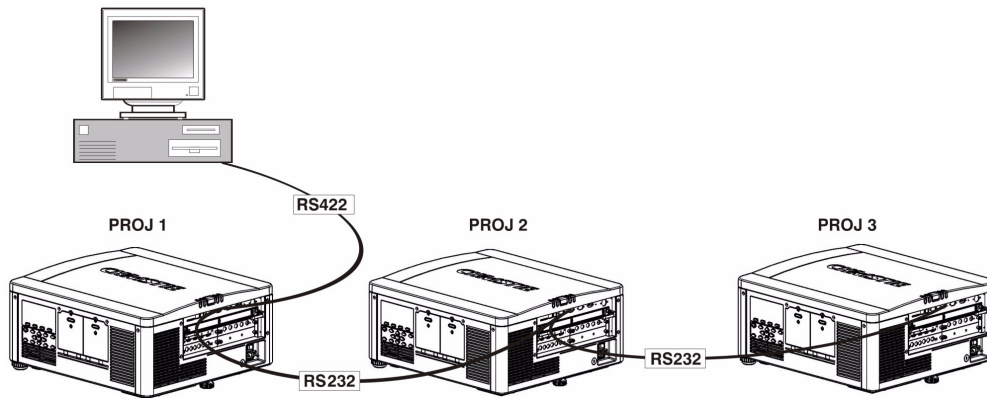

FIGURE 2-22 - MIXED NETWORK
2. Chain the projectors together by connecting an **RS232 OUT** (Null Cable) of the first projector (already connected to the computer/controller through the **RS422** port straight thru to an **RS232 IN** on the next projector in the chains). Continue connecting projectors in this manner until you’ve reached the last projector in the chain, so that only the last projector has one unused port **RS232 OUT**, see Figure 2-22 - Mixed Network.